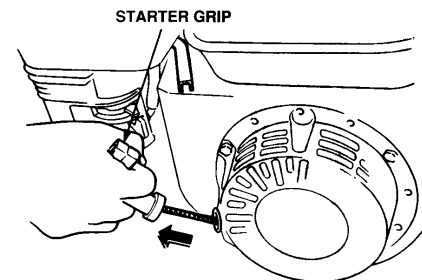

Figure 13. Starter Grip
6. Grasp the starter grip (See Figure 13) and slowly pull it out. The resistance becomes the hardest at a certain position, corresponding to the compression point. Pull the starter grip briskly and smoothly for starting.
9. To begin pumping, place the throttle lever (See Figure 13) in the **RUN** position. If water is not flowing out of the discharge port, turn off the engine and check for and clear any obstructions within the suction hose.